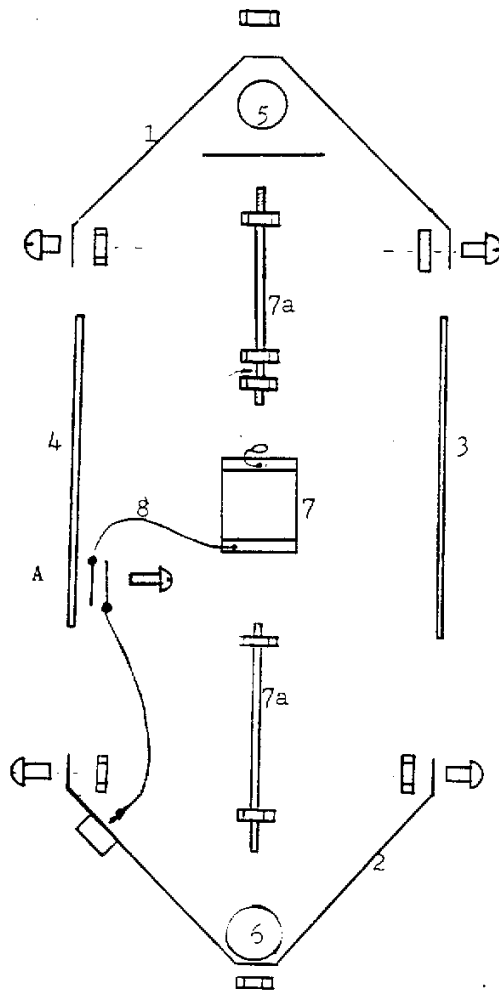
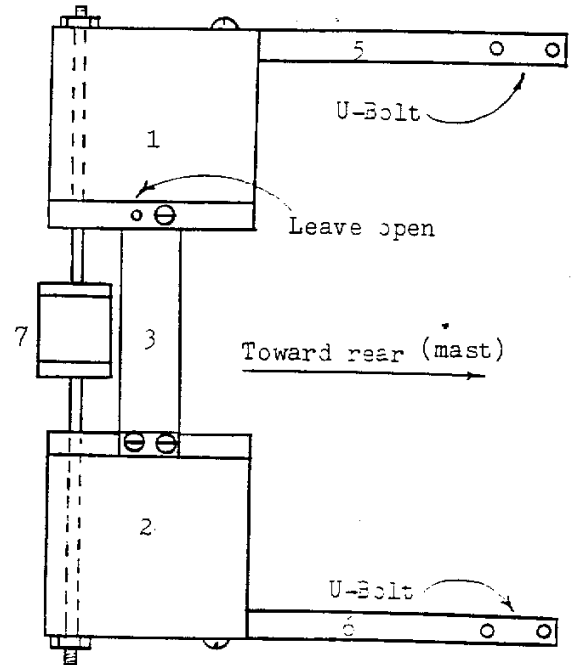

Figure 1
Figure 2
1. Bolt the Top Plate (1) to the Top Support (5). Use 1 1/2" x 1/4" machine bolt through the rear hole. Leave the front hole open (see figs. 1 & 2, Pg. 6)
2. Bolt the Bottom Plate (2) to the Bottom Support (6). Use a 1 1/2" x 1/4" machine bolt through the rear hole. Leave the front hole open.
3. Bolt both Acrylic Insulators (3 & 4) to the Top Plate (1). Use three 3/4" x 1/4" machine bolts and nuts. Leave a hole open toward the front of the antenna opposite the side of the connector. The small threaded holes in the Acrylic Insulators should be placed away from the Top Plate. (see fig. 2, pg. 6)
4. Bolt the Bottom Plate (2) to the opposite ends of the Acrylic Insulators (3 & 4) Using four 3/4" x 1/4" machine bolts.
5. Thread four stop nuts onto the ends of the Coil Support Rods (7a). There should be one stop nut on each end. (see fig. 1, pg. 6)
7. Slip one end of the second Coil Support Rod through the wire eye at the top of the Coil. Thread a second stop nut onto the end of this Coil Support Rod to secure the wire eye. Thread this Coil Support Rod into the top of the Coil and tighten (at least $3/4$ " in). Then tighten the second nut to secure the wire eye. (see fig. 1 pg. 6)
10. Slip the small wire eye from both lead wires coming from the Coil and connector onto the $8/32 \times 1/2$ " machine screw and thread the screw into the hole in the nearest Acrylic Insulator. (see fig.1, pg. 5) Tighten securely.
For example, if the ISOTRON is mounted on a tower, somewhere near the middle, its resonant frequency and impedance value will be lower than if the antenna is mounted in the clear. By insulating the antenna from the tower, you can increase its feedpoint impedance and raise its resonant frequency. Different locations on the tower will produce different values, and it may be necessary to compensate differences by tuning your ISOTRON. If the feedpoint impedance and resonant frequency become higher than desired, then it is possible to decrease them by connecting a capacitor of about 100pf or less between the antenna and the tower (see pg. 14, fig. 2). Another words the lowest impedance would be directly grounding the antenna to the mast. A point in between can be obtained by the use of a capacitor as described. This technique will apply on most mountings where the feedline is longer than 1/8 wavelength. If the feedline is shorter, then the impedance value is determined by the ground of the radio and cannot be varied.